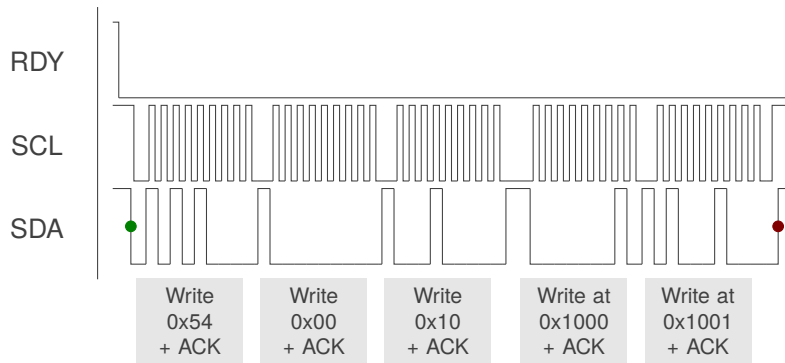

Figure 10.2: I2C Write Example — Write Two Bytes to Button Settings Registers 0x1000 and 0x1001
The write operation is displayed in Figure 10.2. Similar to the read transaction, when the RDY interrupt is triggered, the master initiates communication by sending a start condition followed by the device address and a write command. The IQS325 responds with an acknowledgement, after which the master device transmits two bytes defining the register address. The slave acknowledges the register address bytes. The master may then write a series of bytes to the register address and the addresses that follow, with each byte being acknowledged by the slave. The write operation is ended when the master produces a stop condition.
- > Write the new values back over I2C, as shown in Figure 10.2.